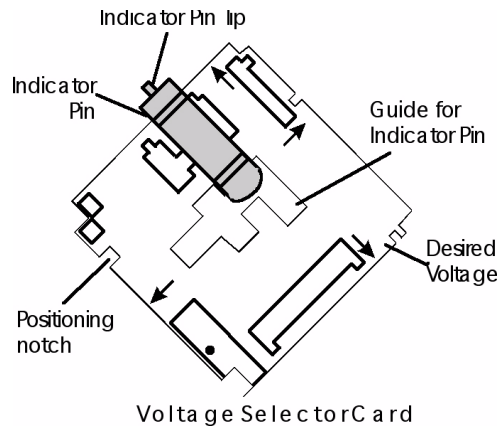

Figure 3. Voltage selector card.
5. Move the indicator pin along the guide to the position opposite the selected voltage. Seat the indicator securely into the positioning notch (Figure 3).